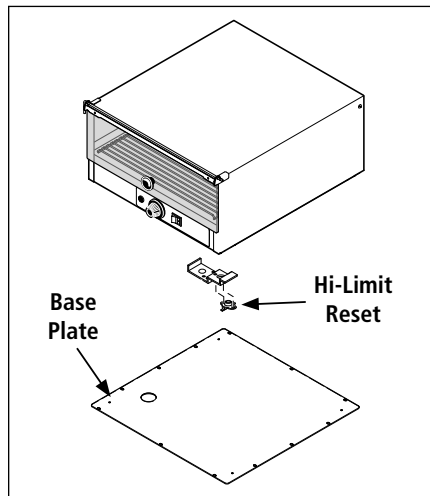

Figure 2. Hi-Limit Reset Button
2. Remove the base plate (Figure 2) from the unit.